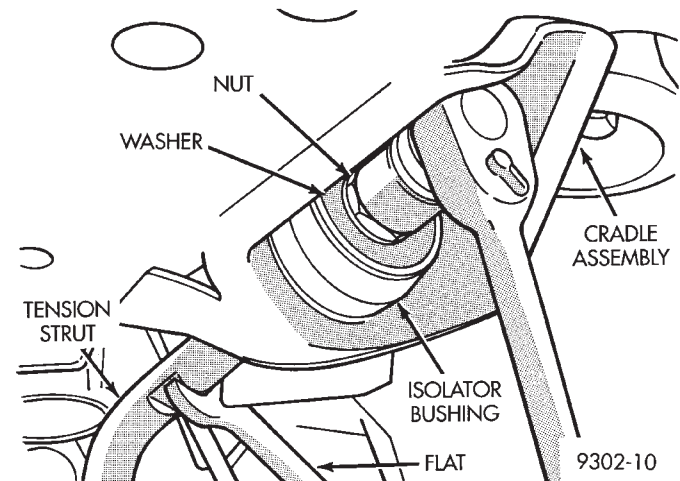

Fig. 11 Tension Strut To Cradle Mounting
(6) Install washer on end of tension strut (Fig. 11). Install a **NEW** tension strut to cradle bracket nut, on tension strut (Fig. 11). Torque the tension strut to cradle bracket retaining nut to 175 N•m (130 ft. lbs.). When torquing tension strut nut, keep tension strut from turning by holding tension strut at flat using an open end wrench (Fig. 11).